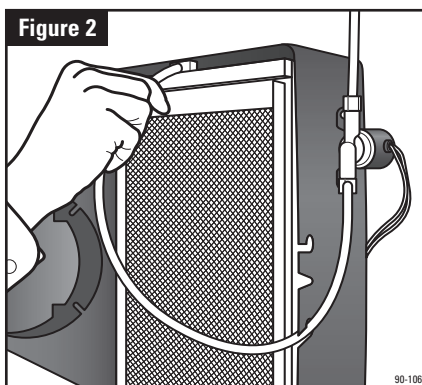

Figure 2
6. Reinstall the Water Panel® Evaporator assembly back into the base, with the bottom of the scale control insert (6) sitting firmly in the inside of the drain spud (9). Push the feed tube back into the water distribution tray. (See Figure 2) Put the front cover back on. If the nameplate (11) is upside down, remove it by gently squeezing the tabs of the nameplate from inside the cover and pushing out. Rotate the nameplate so it is right side up, and snap back into place. Turn damper handle (8) to the open position "WINTER" for the heating season, or closed position "SUMMER" for the cooling season.